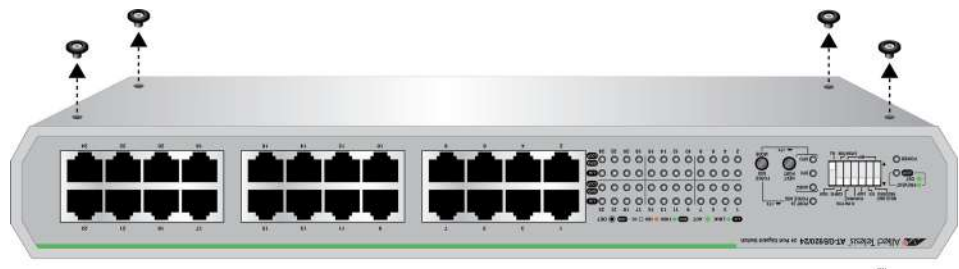

Figure 57. Removing AT-GS920/24 Rubber Feet
1. If the rubber feet were previously installed, remove them as shown in Figure 57.